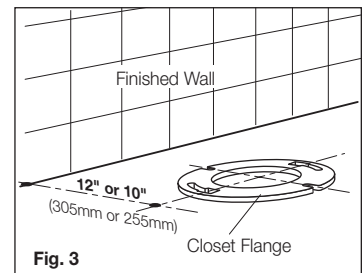

Fig. 3
- 1- It is essential for the installation of all 270 Two Piece Washdown toilets that the closet flange be accurately set out from the finished wall as detailed in **Fig. 3**.